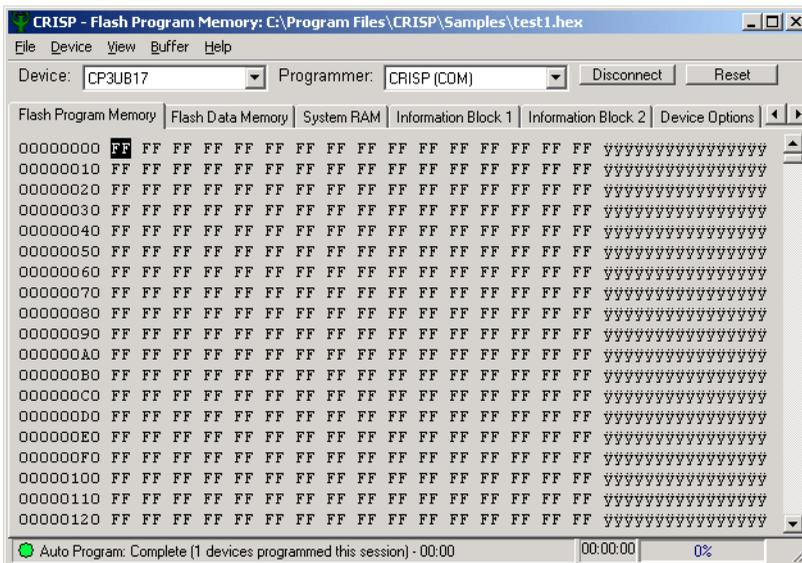

Figure 6-23. Successful Auto Programming
- 6. **Auto Program Complete.** On successful completion of the Auto Program sequence, the status bar circle turns green and the status bar displays the message Auto Program: Complete. It also displays how many devices have been programmed during this session, as shown in Figure 6-23.